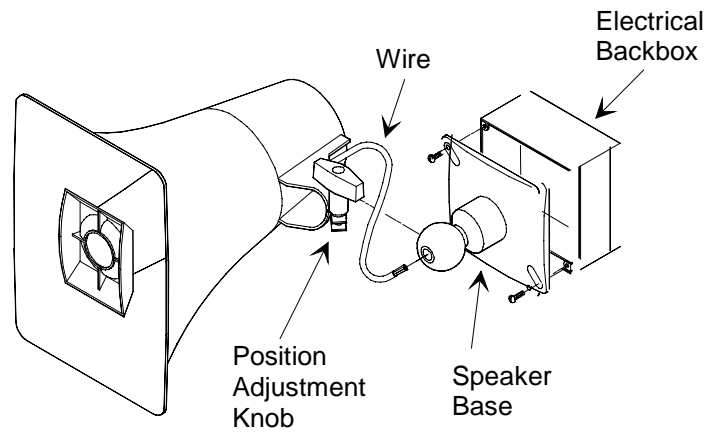

Figure 2 - Mounting to an Electrical Backbox
- Connection to an electrical backbox is accomplished by channeling wire through the ball of the base and making appropriate connections. The base has holes punched for a double-gang square box, but by punching out additional knockout holes, the base can be mounted to a single-gang or octagon box (See Figure 2).